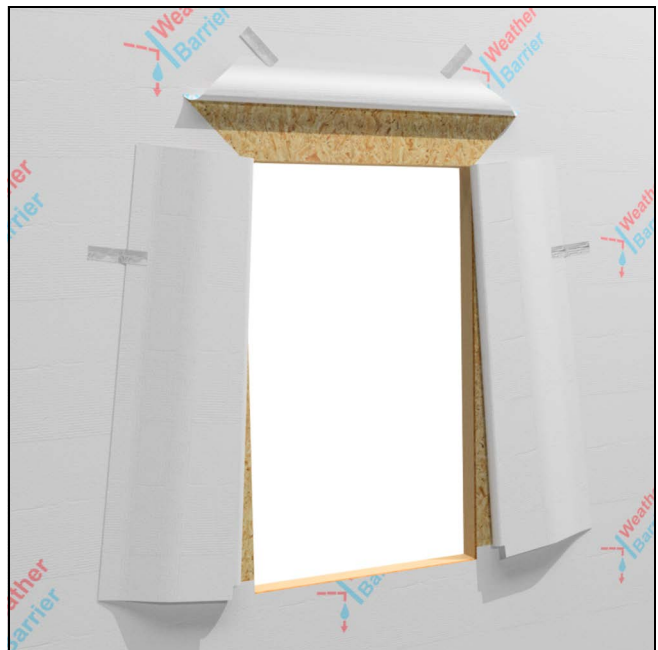

Figure 18
3. Flip the top up and side flaps away and tack temporarily. See Figure 18.